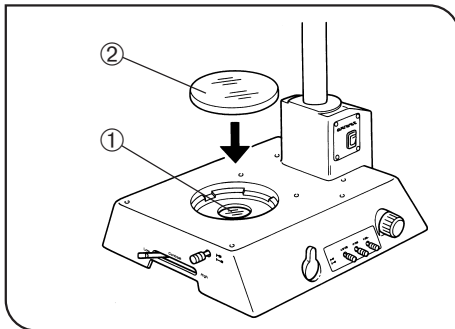

Fig. 7
3 Mounting and Removing the Stage Glass (Figs. 7 & 8)
★ Make sure there is no dust or smudge on the window lens and waterproof glass. Clean the glass ① if necessary (Fig. 7).
1. Clean the stage glass ② first and gently place it on the mounting hole on the top panel of the illumination base. (Fig. 7)